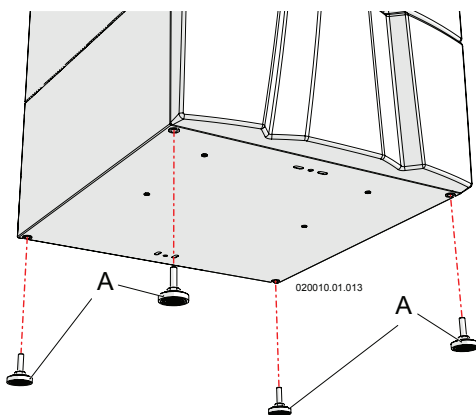

Figure 6-2 - Install leveling feet
- ☞ Install the leveling feet "A" to level the appliance as shown in Figure 6-2.